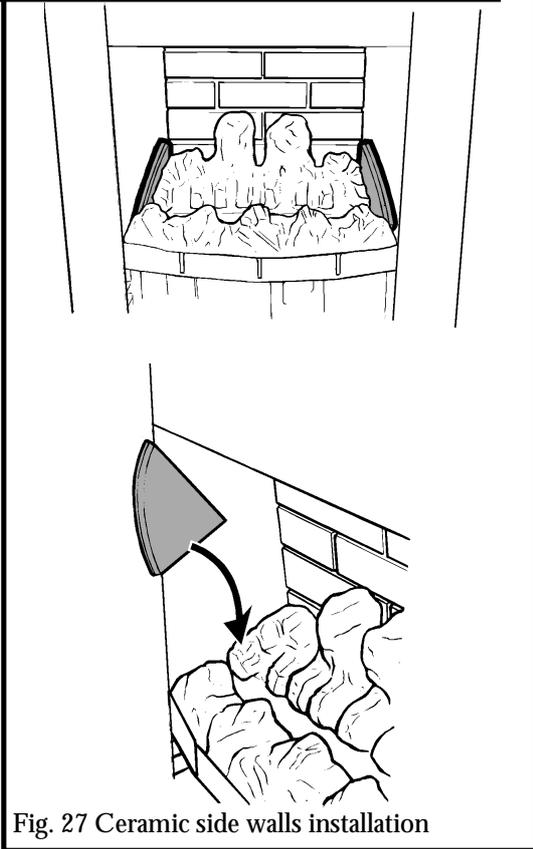

Fig. 27 Ceramic side walls installation
10.4 The ceramic side walls are marked at the rear bottom corners "L" (Left side) & "R" (Right side). Place the side walls against the sides of the fire box and in the recesses at the sides of the base coals. The markings "L" & "R" should be at the at the back bottom corners and facing to the centre of the back of the firebox (See figure 27).